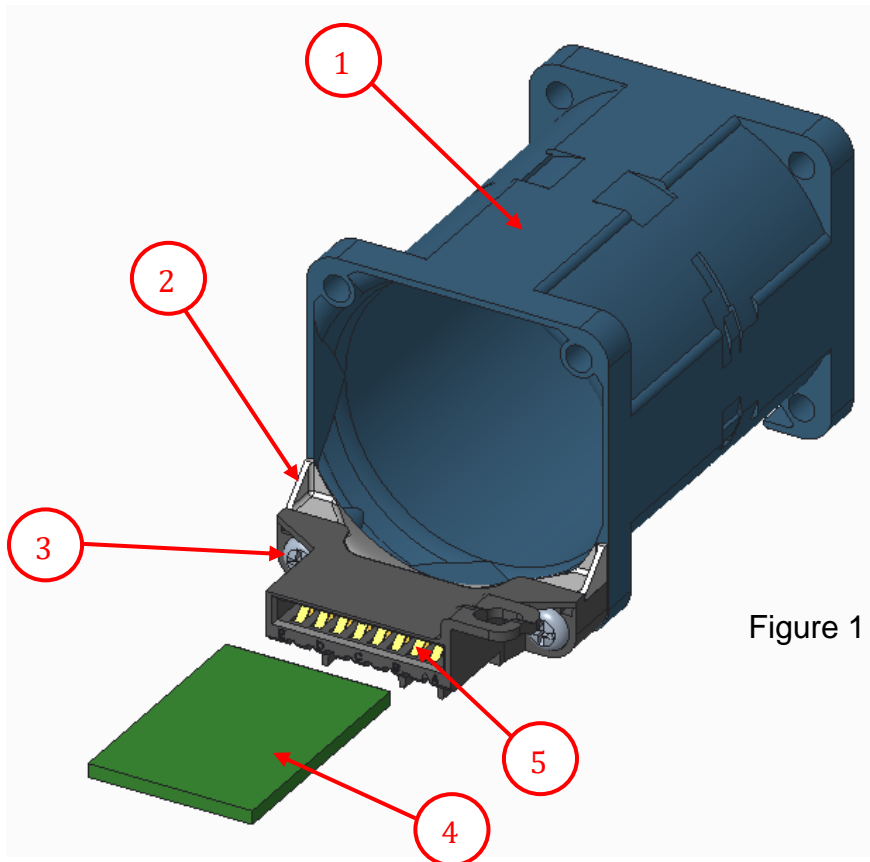
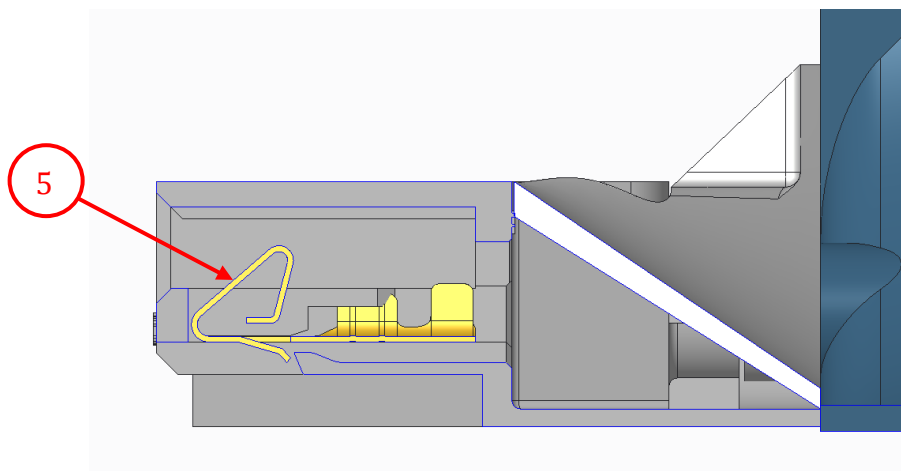

Figure 1
Figure 2
- 1.1 EDGE CARD CONNECTOR FOR FAN MODULE GFMF01 series assembly concept is shown in Figure 1 and sectional view shown in Figure 2